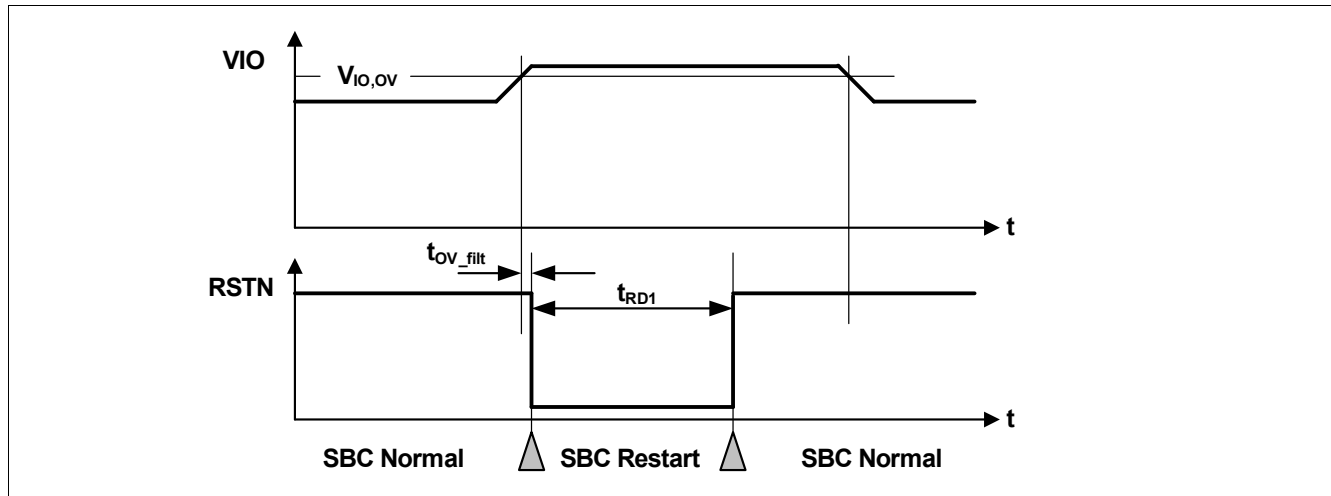

Figure 46 VIO Overvoltage Timing Diagram
- If the bit **VIO_OV_RST** is set in config 1/3, then SBC Restart Mode is entered. The FO output is activated. After the reset delay time (t_{RD1}), the SBC Restart Mode is exited and SBC Normal Mode is resumed even if the VIO overvoltage event is still present (see also Figure 46). The **VIO_OV_RST** bit is cleared automatically.